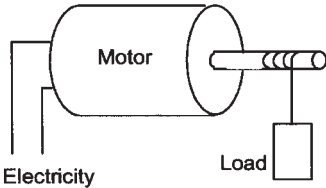
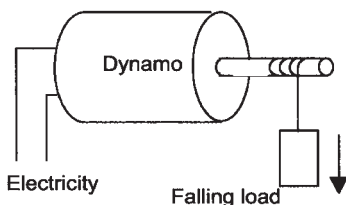

Figure 7.1 Using electrical energy
Figure 7.3 Using 'falling load' energy
- 1 We can use an electric motor to lift a load (Figure 7.1) and consider that we are supplying electrical energy to the motor to do the job of lifting the load.
Consider the situation described in Figure 7.1 of electrical energy being used to lift a load. When the load has been lifted we can consider there is energy associated with the lifted load. For example, we might use the lifted load to fall and drive a dynamo (Figure 7.3) and so reverse the process of Figure 7.1 and transform the energy associated with the lifted load into energy associated with motion and hence into electrical energy. The energy associated with a lifted load is termed *potential energy* and the energy associated with motion is termed *kinetic energy*. Thus, in Figure 7.1, we can consider there to be the energy transformations: